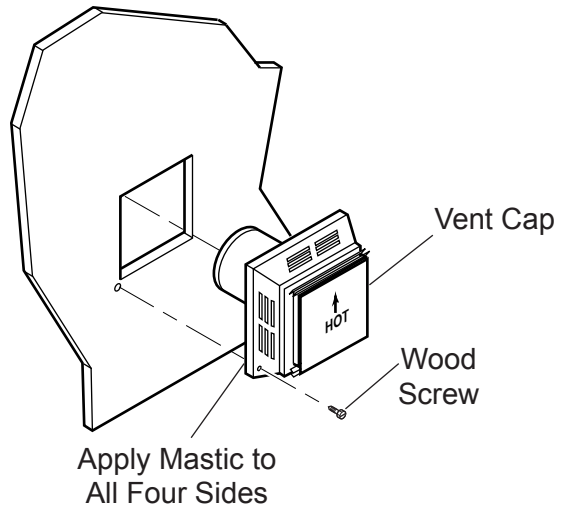

Figure 18 - Installing Horizontal Termination
- Apply a bead of non-hardening mastic around the outside edge of vent cap. Position the vent cap in the center of hole on the exterior wall with the word "HOT" on the vent cap facing up. Insure proper clearance of 1" to combustibles is maintained to the flue. Attach the vent cap with four wood screws supplied. See Figure 18.